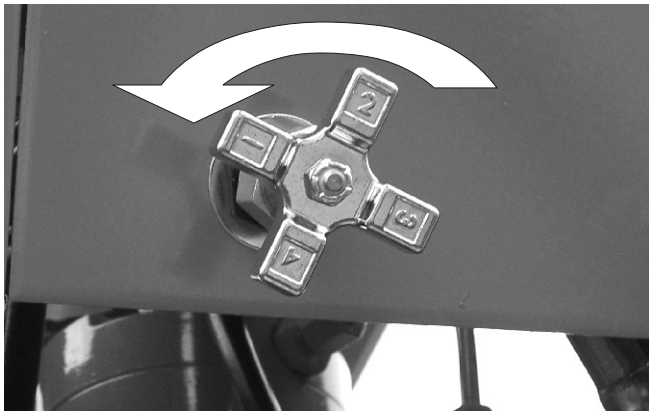

Figure 9.4 - Ground Emergency Lower Valve
In the event of a control failure or other emergency the platform can be lowered from the ground station using this valve. Turn the valve, located at the rear of the column, (see Figure 9.4) counter clockwise to lower the platform to the ground.
2. Turn the valve (see Figure 9.4) counter clockwise to lower the platform to the ground.